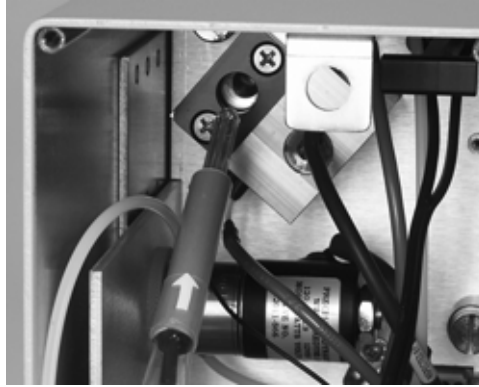

Fig 13-9 : Inserting the New UV Lamp Assembly
- 9) Insert the new UV Lamp Assembly from the Replacement Kit into the housing in the cell, as shown in Figure 13-9.